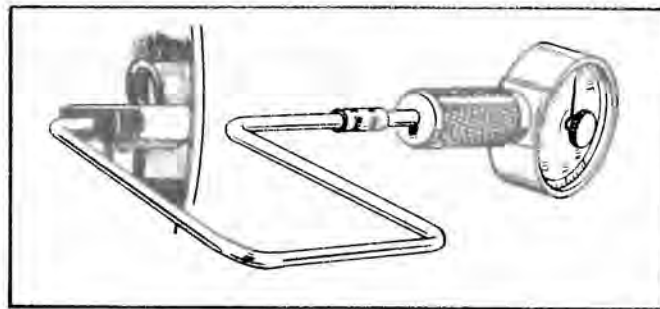

FIGURE 21. TESTING BRUSH SPRING TENSION
7. **Brush Spring Inspection (Spec A only):** Check brush spring tension as shown in Figure 21. If spring tension reads 17 to 25 ounces, the spring is satisfactory.